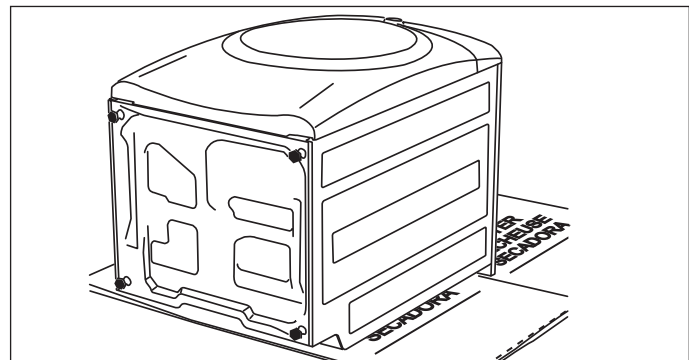

Figure 2-50.
2. Protect floor with cardboard or other covering and carefully tip dryer onto its back. (See Figure 2-50)